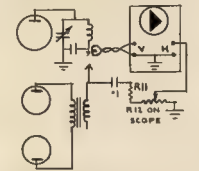
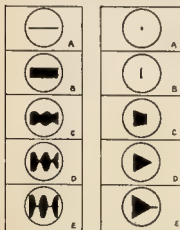

Fig. 4b—Connections for Trapezoid Pattern.
Fig. 3.—Left: Wave Envelope Patterns.
**Trapezoid Pattern.**—To obtain this pattern refer to Fig. 4b. Here you will see that audio from the modulator is required. The scope sweep switch is moved to external sweep position and the audio is fed to the horizontal terminals. When the two frequencies are placed on the scope plates, you get a triangular pattern on the scope screen. These patterns are shown alongside the wave envelope patterns (Fig. 3) and in a similar position to indicate the correct modulation percentage.